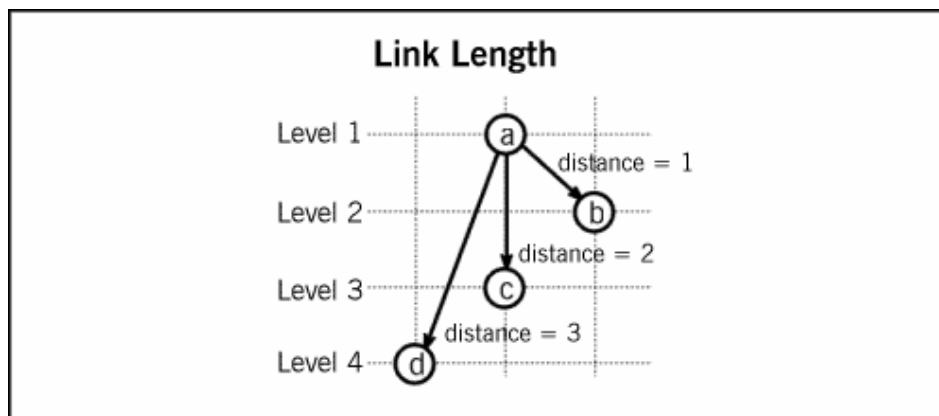

Figure 144: Schematic representation - Level length
- Link length:** By providing an integer value n for this parameter you can define how many layers ($n-1$) should be spanned by an instance of this class (see fig. 144). If instances of different relation classes meet at an object, the maximum number of layers is calculated.